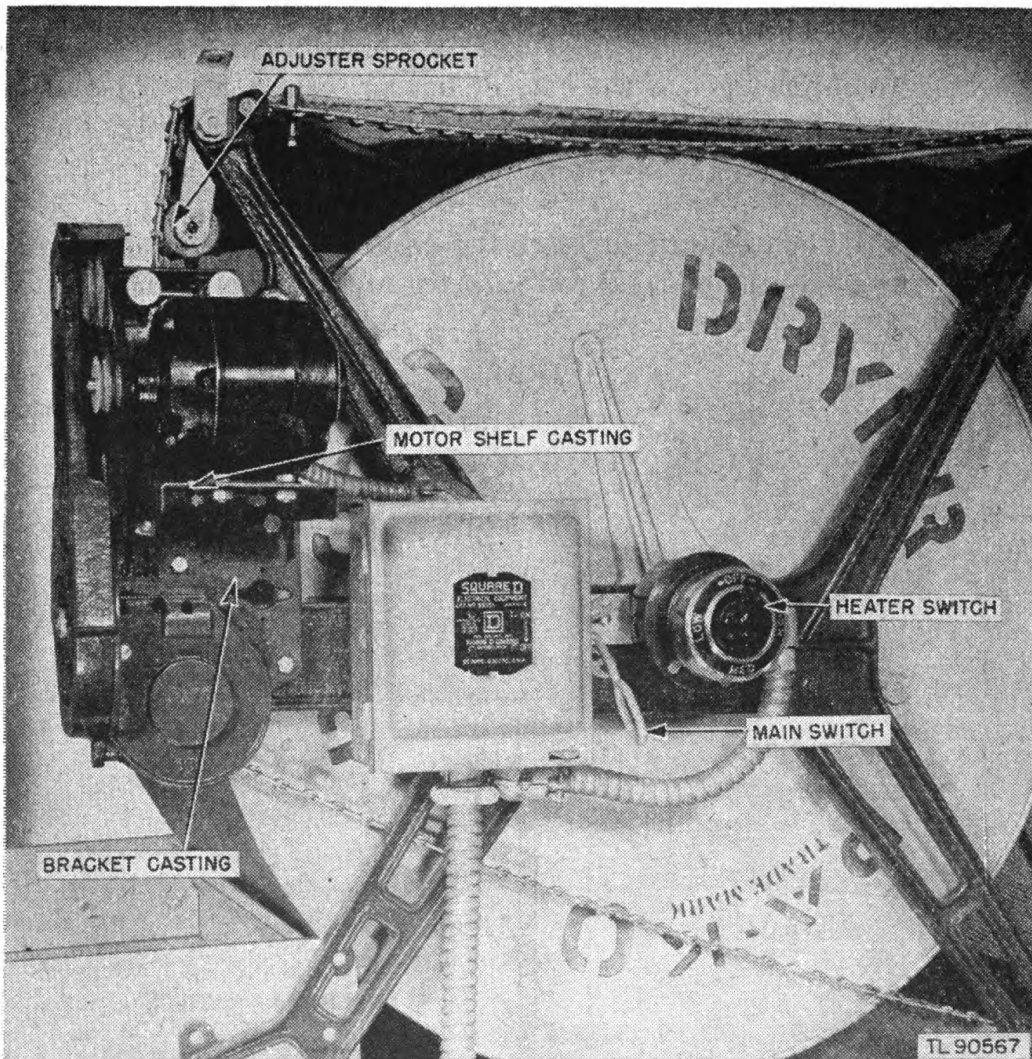
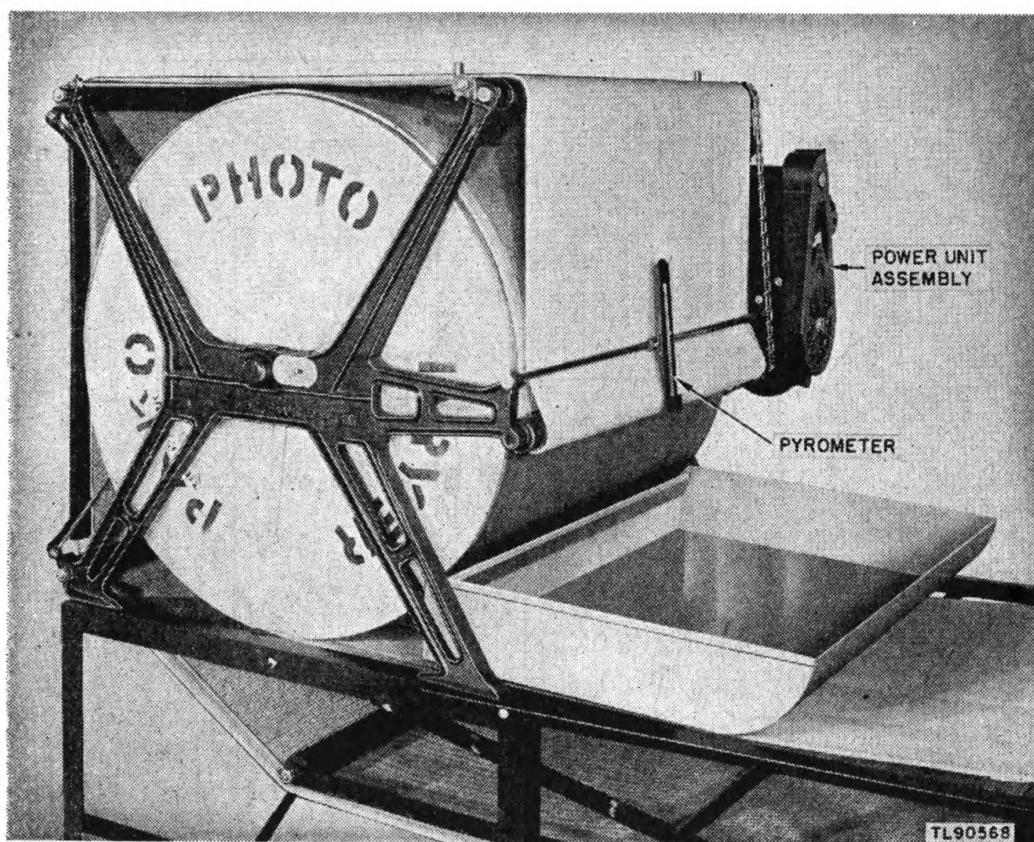

Figure 16. Dryer PH-176, right side detail view.
Figure 17. Dryer PH-176, left side detail view.
c. Watch the pyrometer (fig. 17) carefully while drying prints. It indicates the degrees of heat of the drum as **LOW, NORMAL, or HIGH.** Too much heat will dry the prints to excess, causing them to be brittle, and to wrinkle at the edges. The stages of heat as recorded on the pyrometer compare roughly with the settings of the heater switch **LQW, MED, and HIGH** (fig. 16). When the dryer is running at full capacity, it is generally best to run it on **HIGH**, but great care must be taken not to overdry the prints. Before
α. Safety Switch. If the safety (main) switch becomes defective, it is necessary to remove and replace it. If it is not bent by some heavy blow or allowed to become very dirty, the safety switch will operate indefinitely (fig. 16).
b. Heater Switch. Pull the knob outward (fig. 16), turn it to the left until unscrewed. This frees the bakelite cover and exposes the wiring connections. Label the terminals and the wiring before disconnecting them.